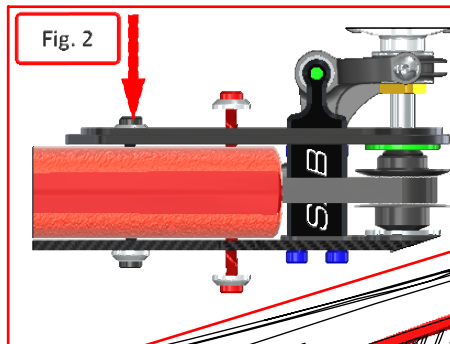

Fig. 2
\*Tension the tail case by hand and slowly tighten the 2 BLACK screws in (Figure 2).
\*Install Canopy grommets (Figure.1) and the two quick knobs (Figure.2).
- \*Fit the main blades and tail blades. (Figure.1 and Figure.2)